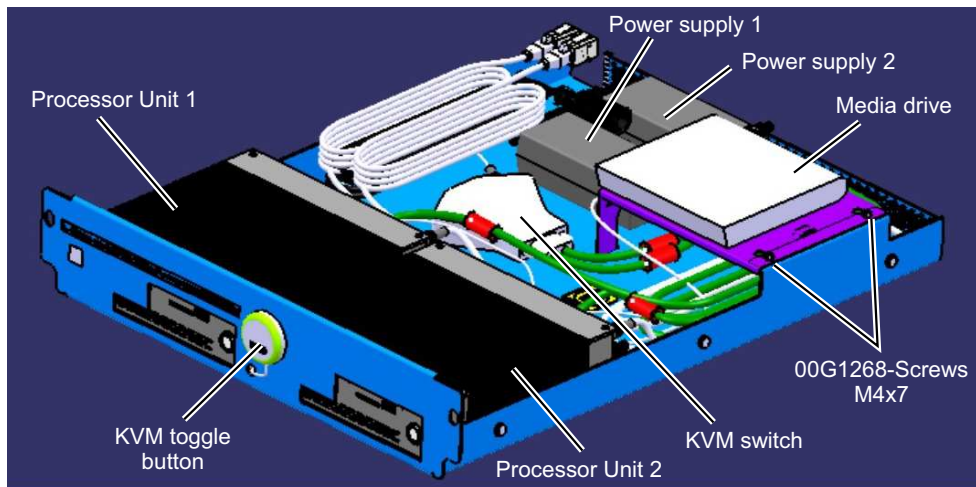

Figure 8. IBM Storage Appliance 2421 Model AP1 hardware overview
3. Loosen the two screws (00G1268, M4x7) on the right side of the tray. (Figure 8)